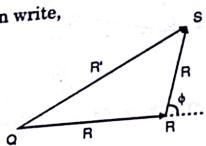

Fig. 3.5.2
The resultant amplitude at P can be obtained from Fig. 3.5.2.
- From Fig. 3.5.2, we can write,